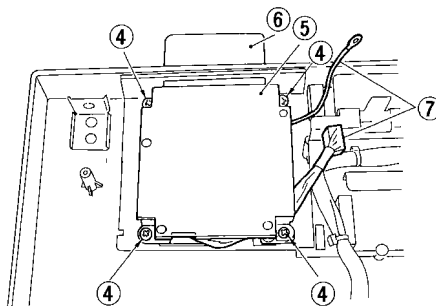

Figure 5-5
Be sure to lead the harness of Control Card V and the grounding wire ⑦ under Control Card V as shown in Figure 5-5. Otherwise, they can come into contact with the scanner cable.